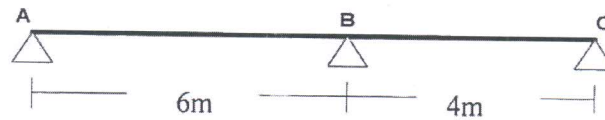

Fig. 8
9. (a) Draw ILD for the reaction at A, B and C. Also draw ILD for shear force at 2 m point from 'A' of AB and center of BC for the beam shown in Figure. 8 : [8]